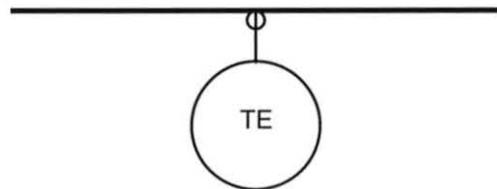

Figure 63. Flow Sensing Element Symbol
2. Determine what type of temperature sensing element symbol is shown in figure 63.